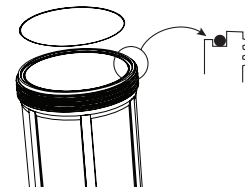

Figure 2
9. Remove one of the o-rings from its shipping bag. Lubricate o-ring with the supplied silicone grease. Insert it into the cartridge housing groove (Figure 2) at the top edge of the housing.